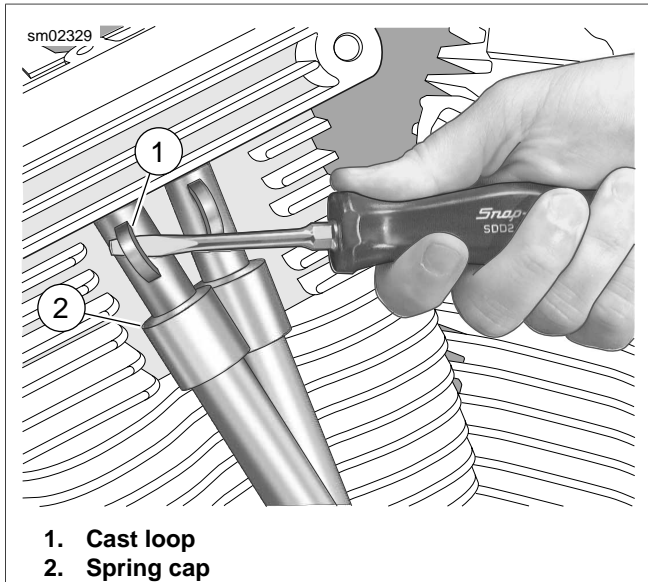

Figure 3-14. Removing Spring Cap Retainer
1. See Figure 3-14. Insert the blade of a small screwdriver into cast loop (1) of spring cap retainer (at top of upper push rod cover). While pushing down on spring cap (2), rotate bottom of screwdriver toward outboard side to remove. Repeat step on second push rod cover.